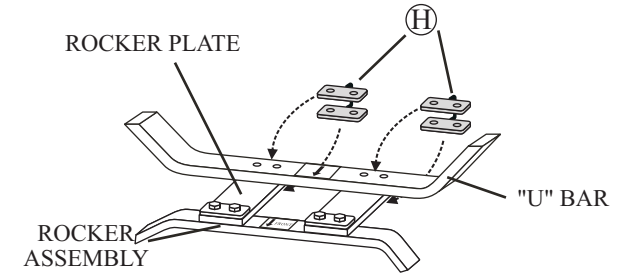
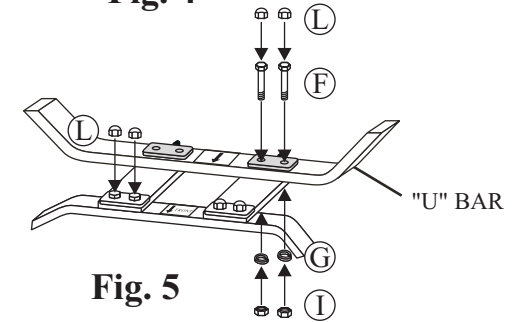

Fig. 4
Fig. 5
Step 6: Critical Step: The "U" metal plates must be installed in the proper location. Read this step and carefully examine. Adjust alignment of the holes of support bar and "U" bar. Insert a "U" metal plate as shown in Fig.4. Then guide the 5/16"x40 mm bolts through the holes in the "U" metal plate, "U" bar, rocker plate, and bottom portion of the "U" metal plate. Add a Ø8.0 x 2.3 mm spring washer and a nut to each bolt as shown in Fig.5. **Hand tighten only.** Repeat the same procedure on the other side.